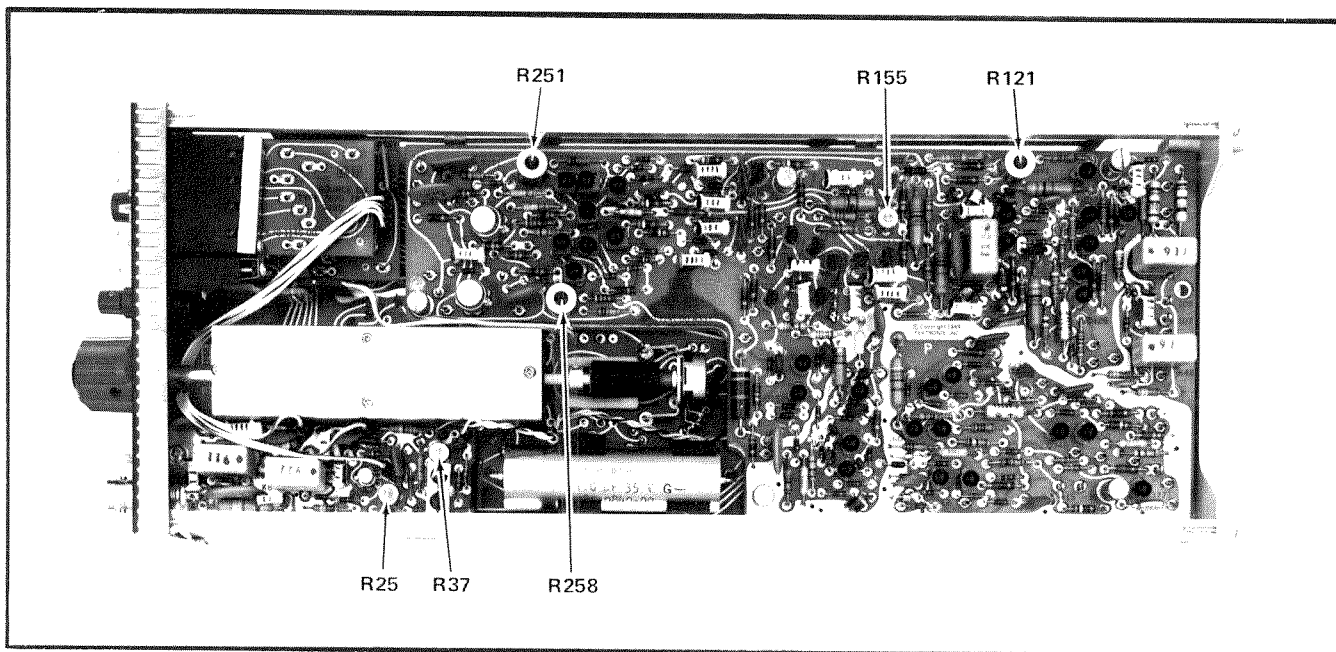

Fig. 5-1. Location of adjustments on Trigger Board.
b. ADJUST—R251 for a stable display. See Fig. 5-1 for location of adjustment.
b. ADJUST—R258 for a stable display. Refer to Fig. 5-1 for location of adjustment.
b. ADJUST—R155 for a stable display. Refer to Fig. 5-1 for location of adjustment. Check for stable triggering over the full 360° range of the LEVEL/SLOPE control.
- b. ADJUST—Change the TRIGGERING COUPLING to DC and adjust R121 (see Fig. 5-1) for a stable display. Return the TRIGGERING COUPLING to AC.
- c. ADJUST—R37 (see Fig. 5-1) for a null reading on the voltmeter. Use the most sensitive voltmeter scale for the final adjustment.